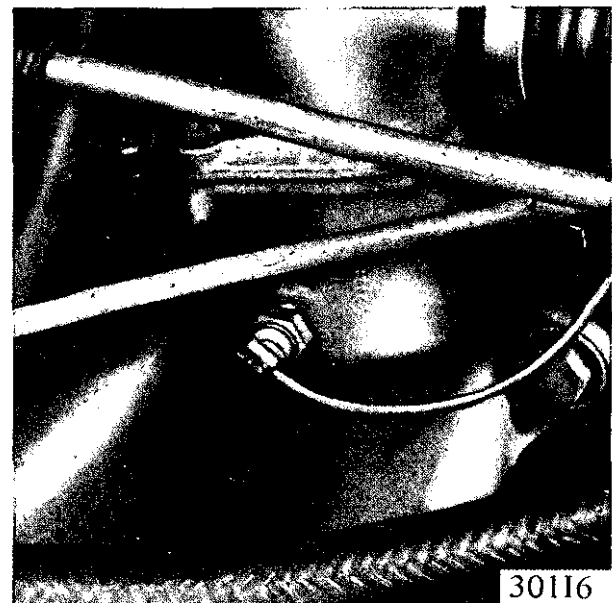

Figure 11-6 -Temperature Sending Unit
3. Unscrew temperature sending unit from thermostat housing. See Figure 11-6.